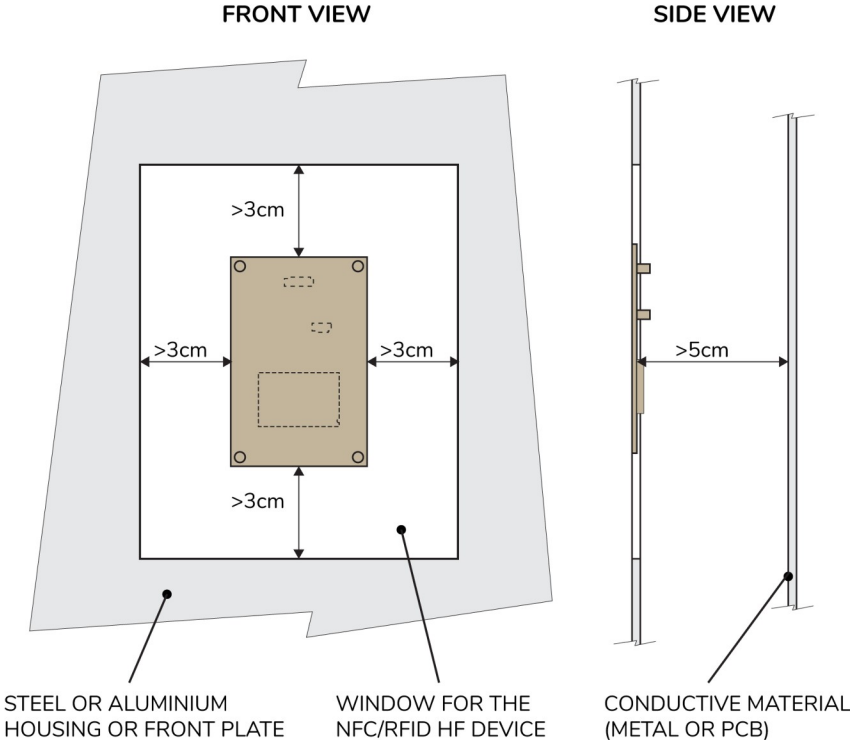

Figure 7
- Avoid any conductive materials in close proximity to the antenna's front. When embedding the M519-SUV within metallic structures such as kiosks or gates, create an aperture of at least 130x105mm within the metal framework (*Figure 7*).
- Maintain a minimum clearance of 30mm around the periphery of the antenna (*Figure 7*).
- Ensure a minimum clearance of 50mm behind the antenna (*Figure 7*).